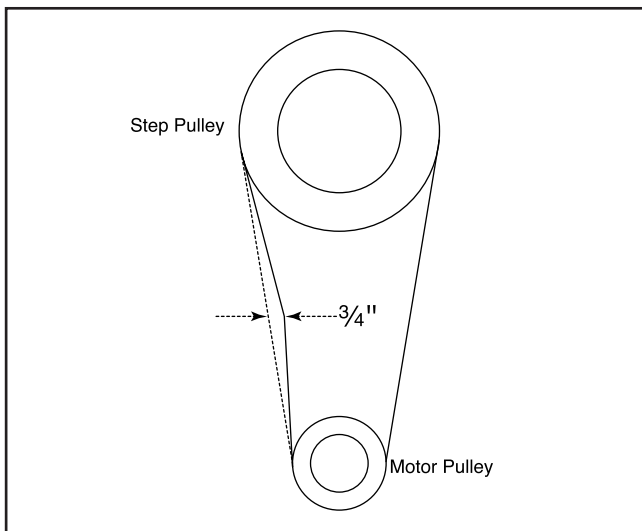

Figure 15. Pulley deflection w/moderate pressure.
2. Tension the belt by pushing the stepped pulley down in the shaft slot. The belt deflection should be approximately $\frac{3}{4}$ " when you push on the center of the belt (similar to **Figure 15**) with your index finger.